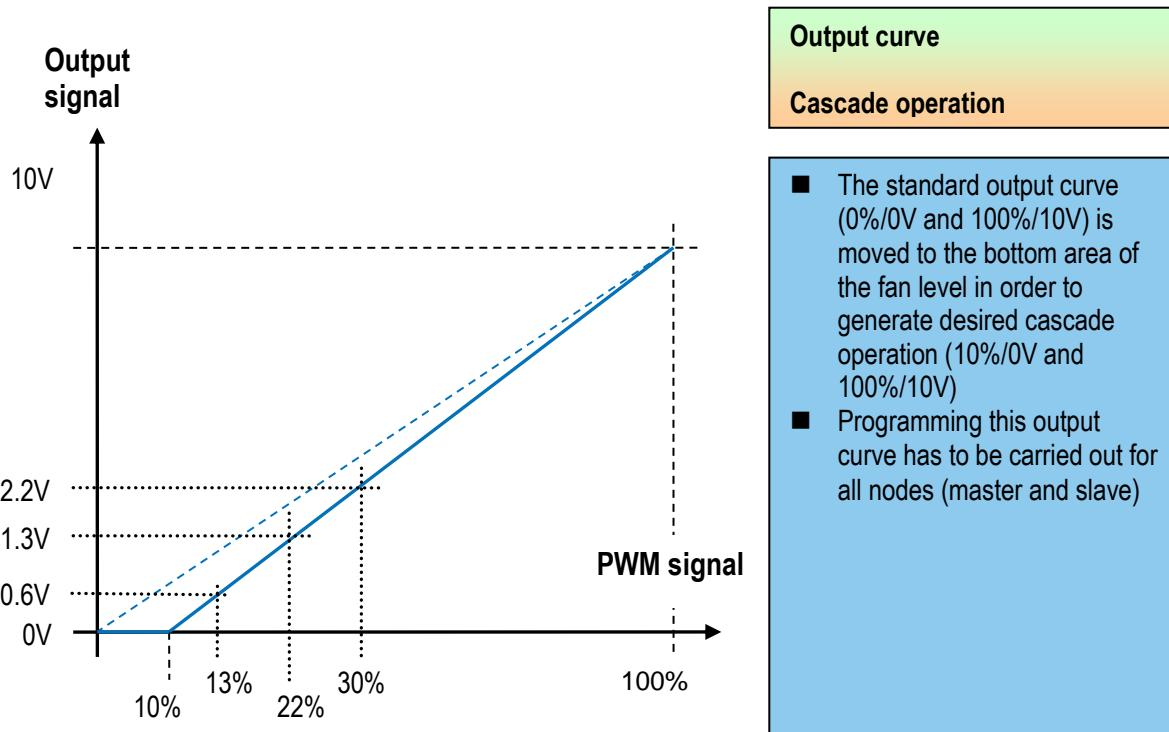

Fig. 47: Output curve for cascade operation
- Adapted output curve for master and all slaves, ex. Fig. 47
Fig. 47 shows an example of curve for which, at a low speed of the master, the slaves themselves take on an even lower speed in sequence. This should also lead to the last slaves in the chain being switched off.
- With output curve Fig. 47, on slave 1, a signal of approx. 2.2V is output
- With output curve Fig. 47, it outputs a signal of approx. 10V to slave 1
Fig. 48 shows the settings which must be carried out for the input and output curve in a cascade operation according to Fig. 47 in EC-Control. Here, it is important that the input characteristics are not changed and are set to the default settings. In addition to Fig. 48, the control mode *PWM control* with source of set values *analogue Ain1* has to be selected for the slaves. The function *Save set value to EEPROM* has to be deactivated for the slaves while doing so.